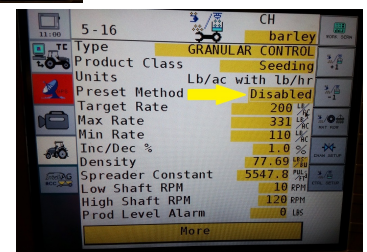

Figure 13
Step 8. Select **Spreader Constant** from table at bottom of page for the material you will be applying and enter. (Figure 13)